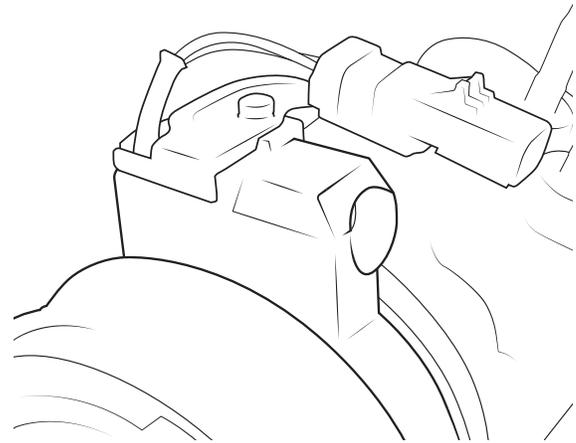

*Figure 18*
11. Install transmission to engine (make sure the intermediate plate is installed). AEV recommends using Blue Loctite. Torque the bell housing bolts to 35 ft/lbs for the four (4) 3/8” bolts, and 50 ft/lbs for the two (2) 7/16” bolts. Install the torque convertor bolts, using Blue Loctite and torque to 31 ft/lbs.
12. Install structural dust cover (fig 18). Torque to 40 ft/lbs.